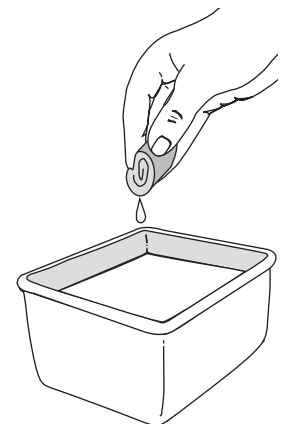

Fig. 25
- Wash the filter in detergent and water (Fig. 25). Rinse the filter thoroughly. Squeeze out excess water. Allow it to dry completely.